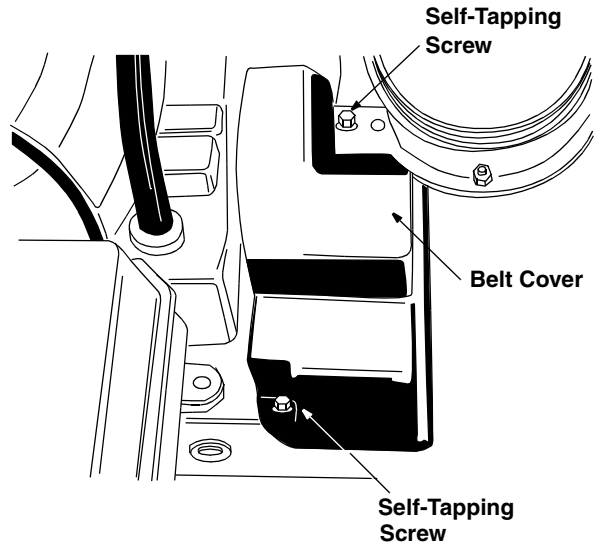

Figure 25
- Remove the plastic belt cover on the front of the engine by removing two self-tapping screws. See Figure 25.
- Remove the plastic belt cover on the front of the engine by removing the two self-tapping screws. See Figure 25.
- Remove four screws from the frame cover underneath the snow thrower (Figure 25).